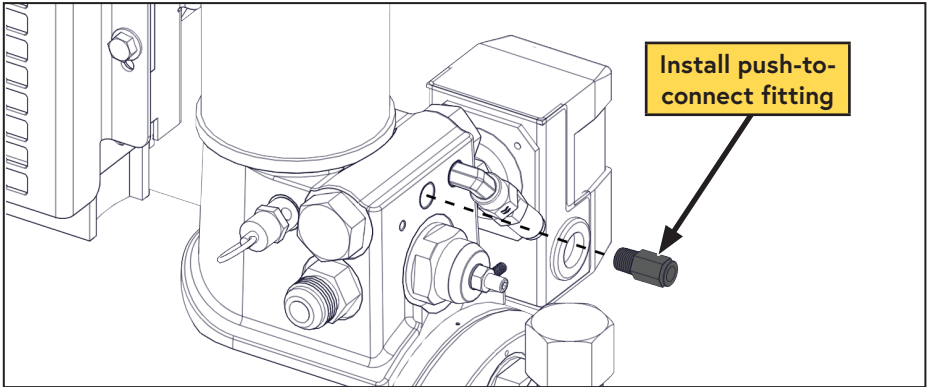

Figure 29 — Install push-to-connect fitting
- Apply Loctite 567 (thread sealing) compound to the 1/4 in push-to-connect fitting and install it into the threaded hole which previously held the blowdown muffler (Figure 29).